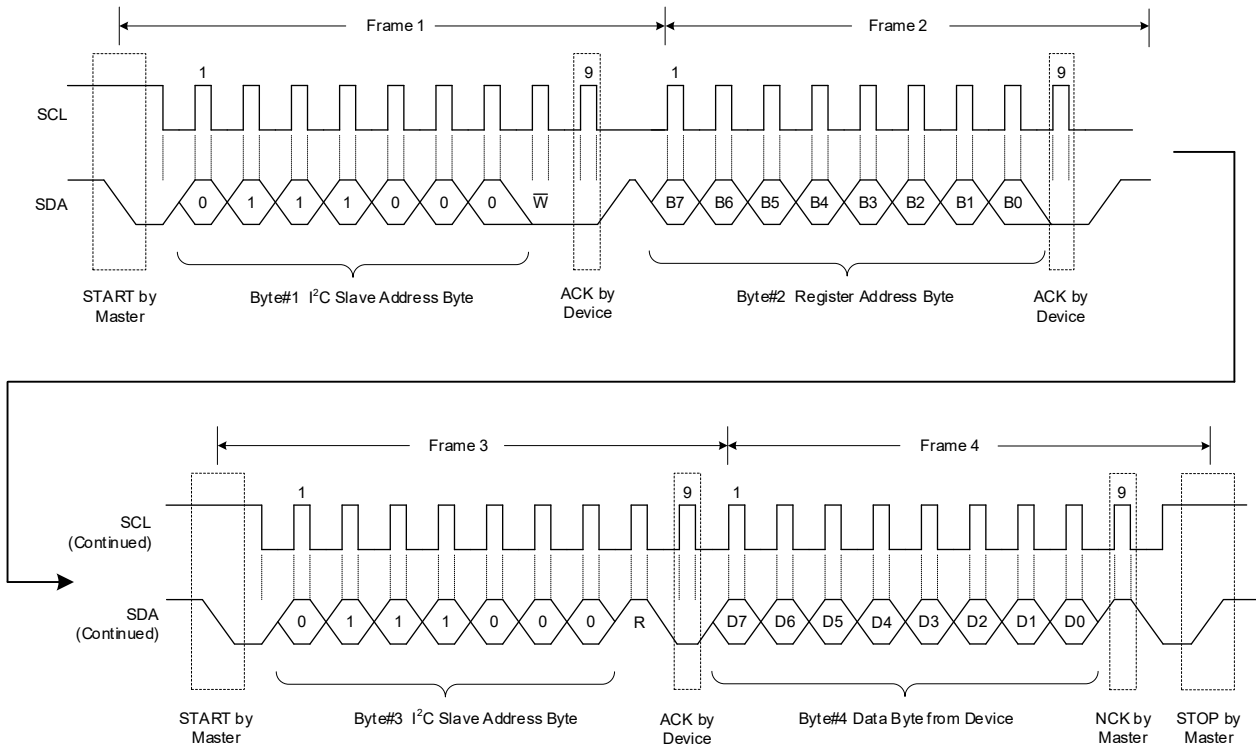

Figure 11. A Single Read Transaction
**READ:** If the master wants to read a single register (Figure 11), it sends a new START condition along with device address with R/W bit = 1. After ACK is received, master reads the SDA line to receive the content of the register. Master replies with NCK to inform slave that no more data is needed (single read) or it can send an ACK to request for sending the next register content (multi-read). This can continue until an NCK is sent by master. A STOP must be sent by master in any case to end the transaction.